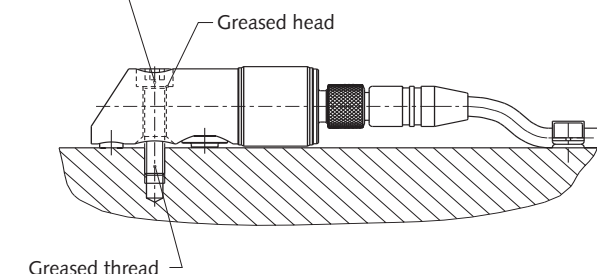

Fig. 5: Mounting with 6-point socket head cap screw
- Secure the transmitter with a single screw with pre-greased thread and head bearing surface. Preload the screw to a torque of 14 N·m (Fig. 5)